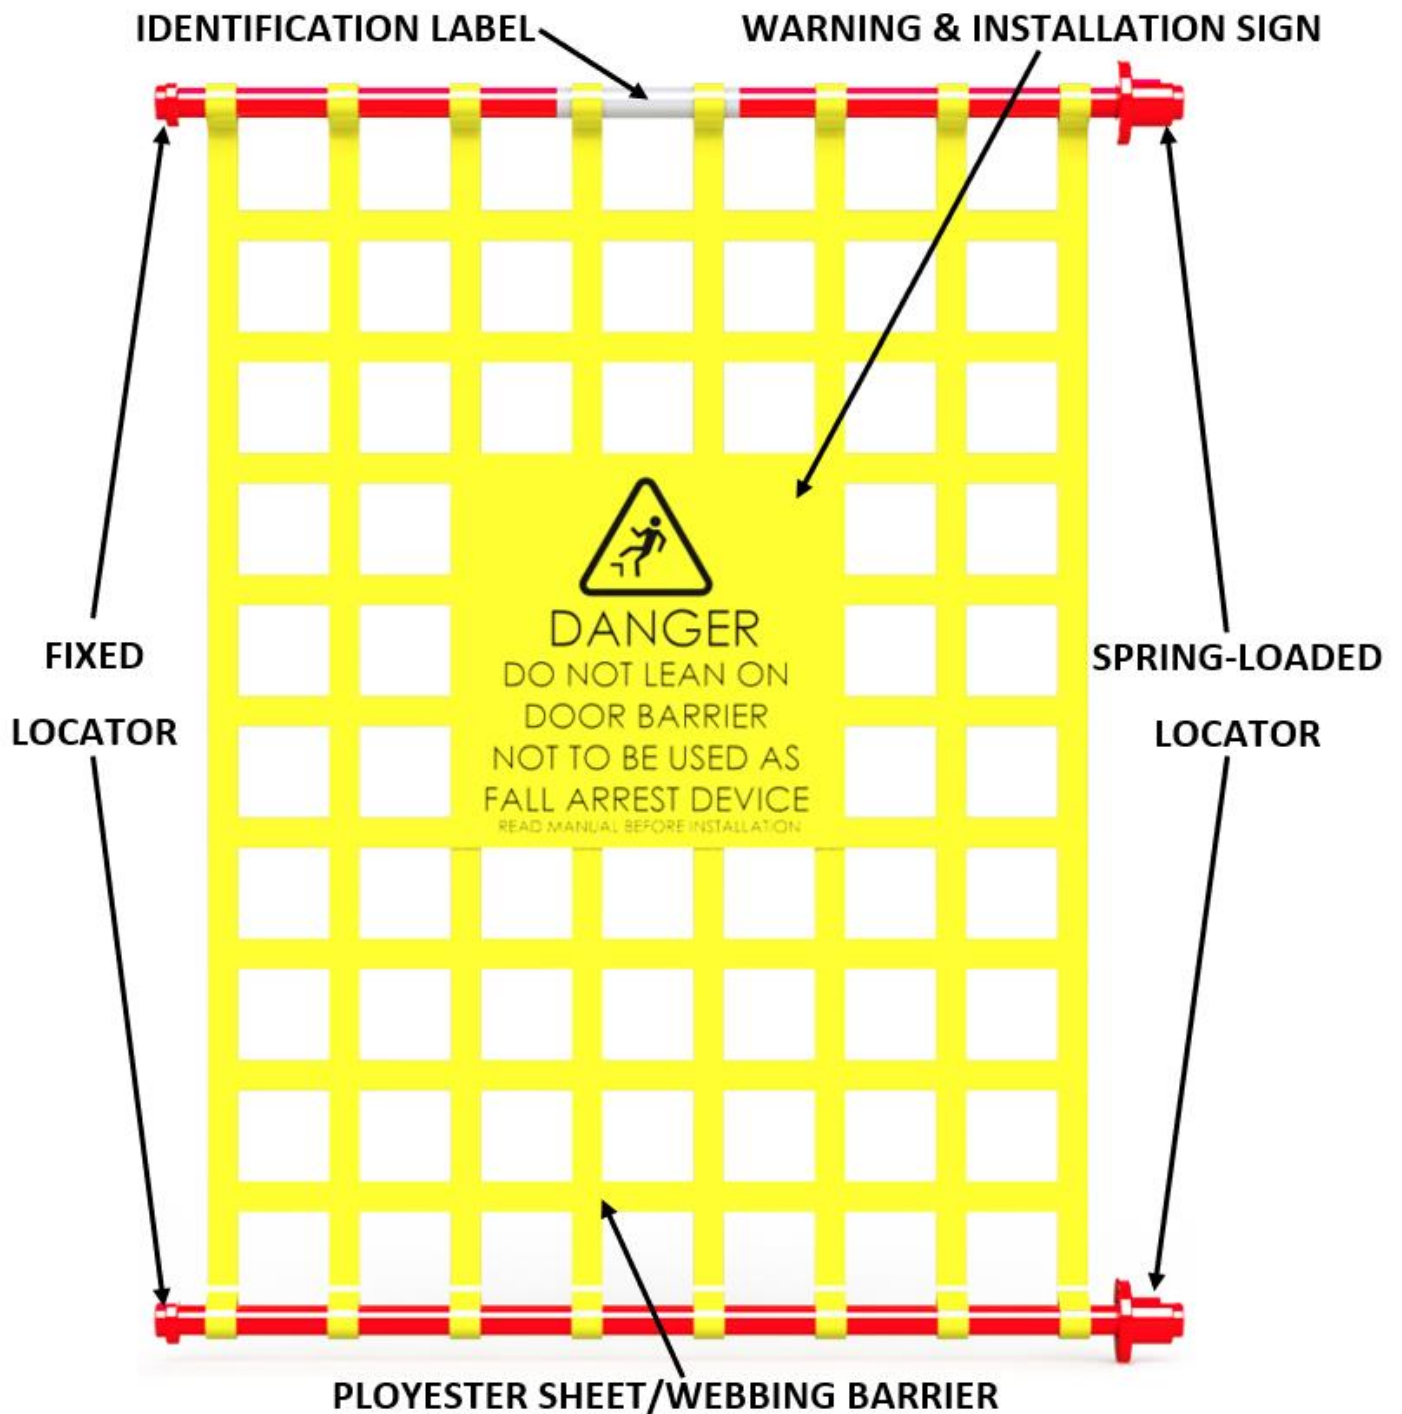

Figure 2. Aircraft Door Barrier Net.
2.2.1 Figure 2 shows a general construction of the aircraft barrier door nets.